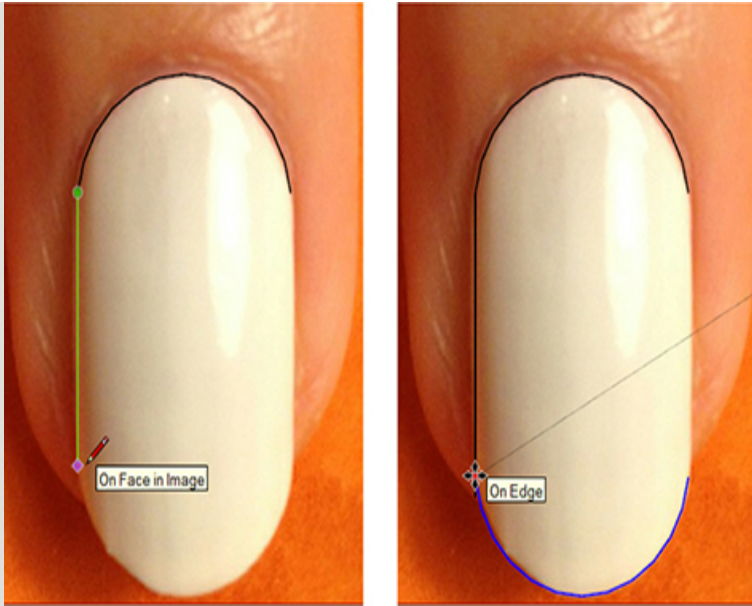

Figure 4-27 Draw a line down from the first arc, and connect the second arc to it.
3. Draw a straight line down from the first arc, and connect it to an endpoint on second arc (Figure 4-27). If the line is too long, move the arc up the line's length, and trim excess with the Eraser.